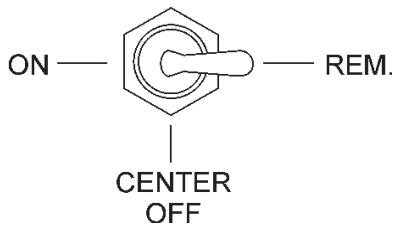

Figure 30. Pumping Control Switch (Off)
12. Turn the **Cylinder Stroke Control switch** to the **OFF** position (Figure 30). The pump is now ready to be operated. Refer to the **Operating Procedures** section of this manual for priming and operating instructions.